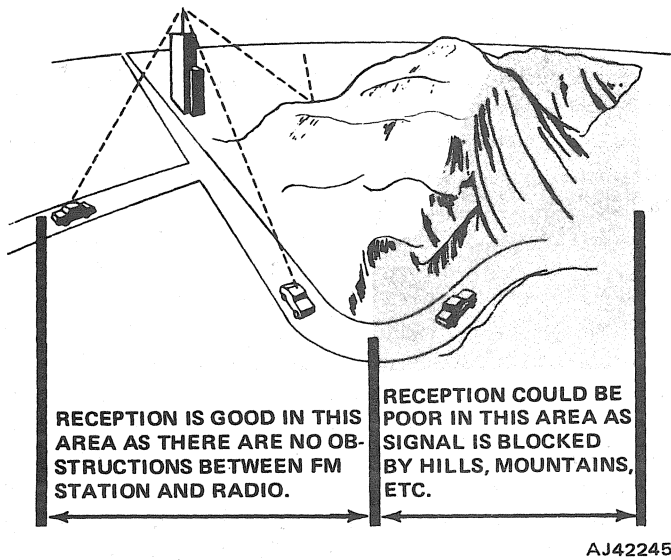

Fig. 3V-10 FM Fading
**Multipath Reception**—The fact that FM can be received quite well between tall buildings can unfortunately cause a detrimental side effect, namely multipath reception (fig. 3V-11). It is caused by a direct signal and a reflected one arriving at the vehicle's antenna causing distortion, partial or complete loss of the station, or poor FM Stereo reception. This type of interference is usually of short duration since the area of interference is usually only a few inches or feet across. It is mostly encountered in downtown areas.